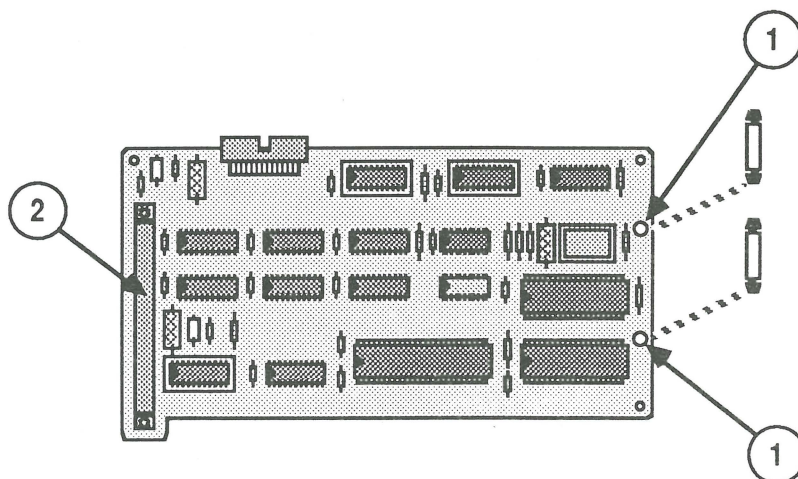
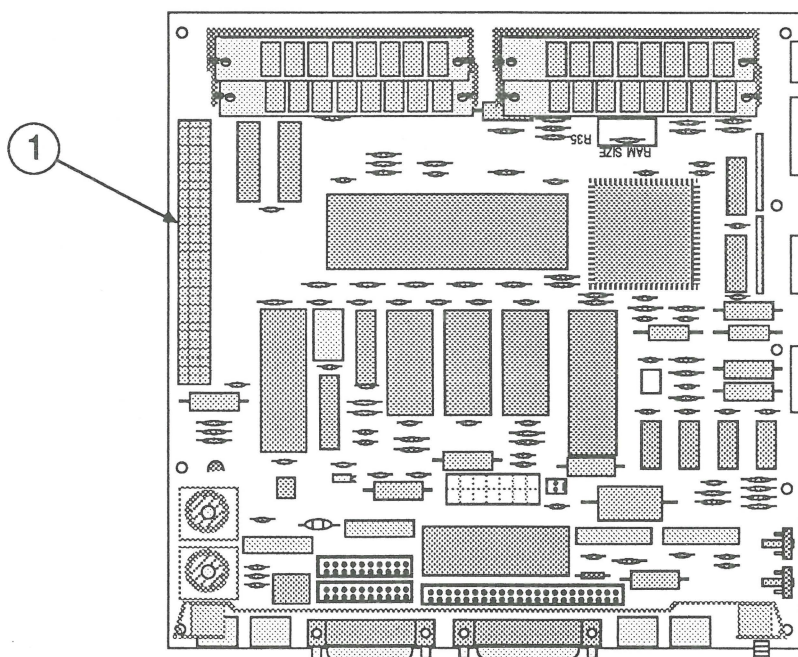

FIGURE 4
FIGURE 5
- IPL.9 Video Card—Macintosh II Monochrome, 1-Bit (Figure 4)
- IPL.11 Video Card—Macintosh II High-Resolution Display (Figure 5)
5. From the component side of the card, push the two plastic standoffs into the mounting holes (Figure 4, #1) until they snap into place.
6. Locate the 96-pin Euro-DIN connector on the card (Figure 4, #2) and the internal expansion connector on the main logic board (Figure 5, #1). Turn the card component-side-down above the main logic board, and join the two connectors.